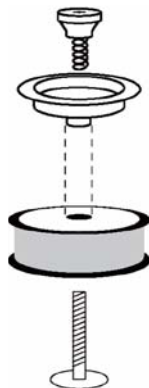
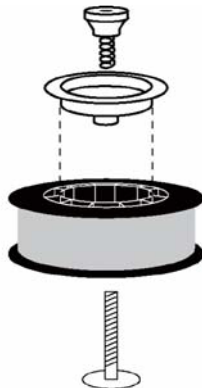

Figure 8A. Drive Brake Hardware Installation
Figure 8B. Spindle Adapter and Drive Brake Installation
5. If you are installing a four-inch spool of wire, install the drive brake hardware on the top of the spool of wire according to figure 8A. If you are installing an eight-inch spool, install the spindle adapter and drive brake hardware as shown in Figure 8B. The purpose of the drive brake is to cause the spool of wire to stop turning at nearly the same moment that wire feeding stops.